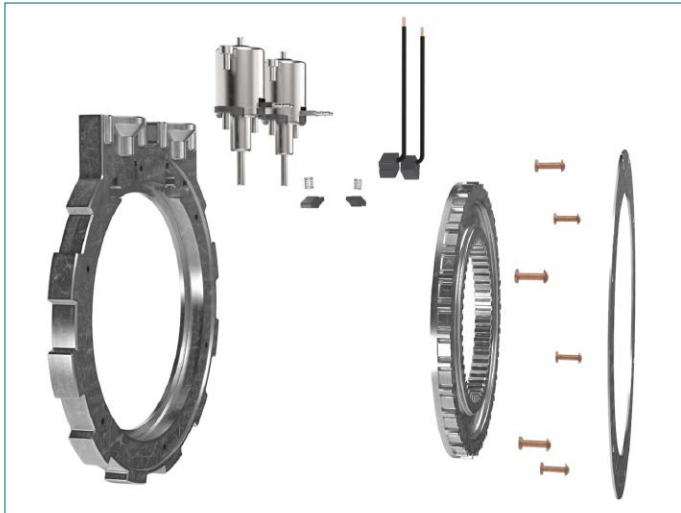

Figure 1 Static CMD-e
The passive overrunning strut set is replaced by a single locking element which is operated by a solenoid. A second single locking element is used to transmit torque in the opposite direction. Independent control of each solenoid allows torque transmission in the clockwise (CW) and freewheeling in the counterclockwise (CCW) direction, or visa versa. Simultaneously engaging both solenoids creates the clutch brake function (no-way clutch). See Figure 1.